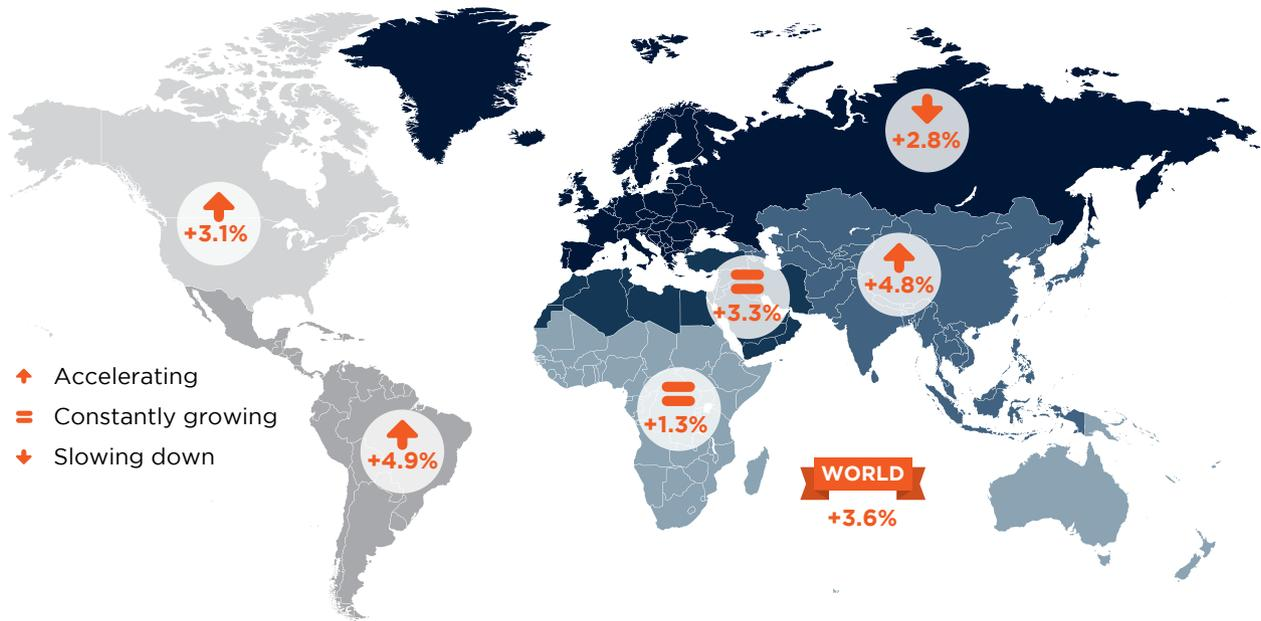

Figure 2: Pharmaceutical market trends during the period 2018-2021 divided into macro areas.
Figure 2 shows Pharmintech Monitor's(2) evaluation of the global pharmaceutical market and the trend for the period 2018-2021.